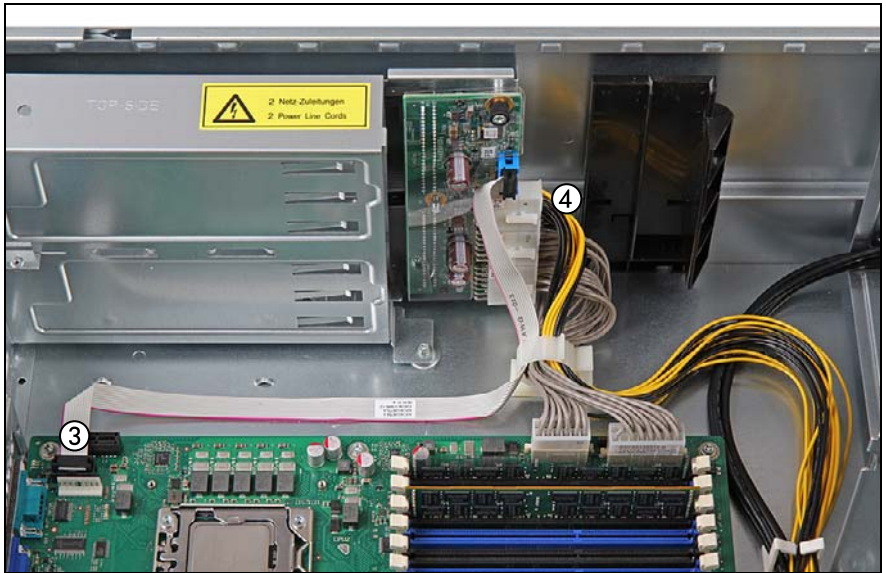

Figure 59: Connecting cables (B)
- ▶ Connect the power cable (4 in figure 59) to the system board and the SAS backplane:
- connector P12 (10-pin) to system board connector "P3(PWR3)" (5)
- Run the cable through the cable guide (6) as shown.
- 2.5-inch HDD configurations (7): see section "Cabling plans" on page 403
- 3.5-inch HDD configurations (7): see section "Cabling plans" on page 403